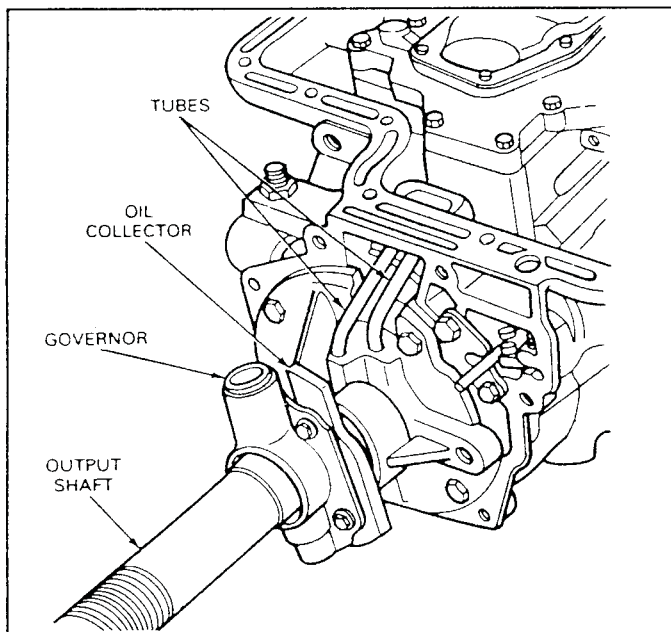

FIG. 15 Governor Installed
2. Remove the four governor body-to-oil-collector attaching bolts (Fig. 15).
1. Secure the governor (Fig. 15) to the oil collector flange with the attaching bolts. Tighten the bolts to 10.5-13.5 N·m (90-120 in.-lbs).